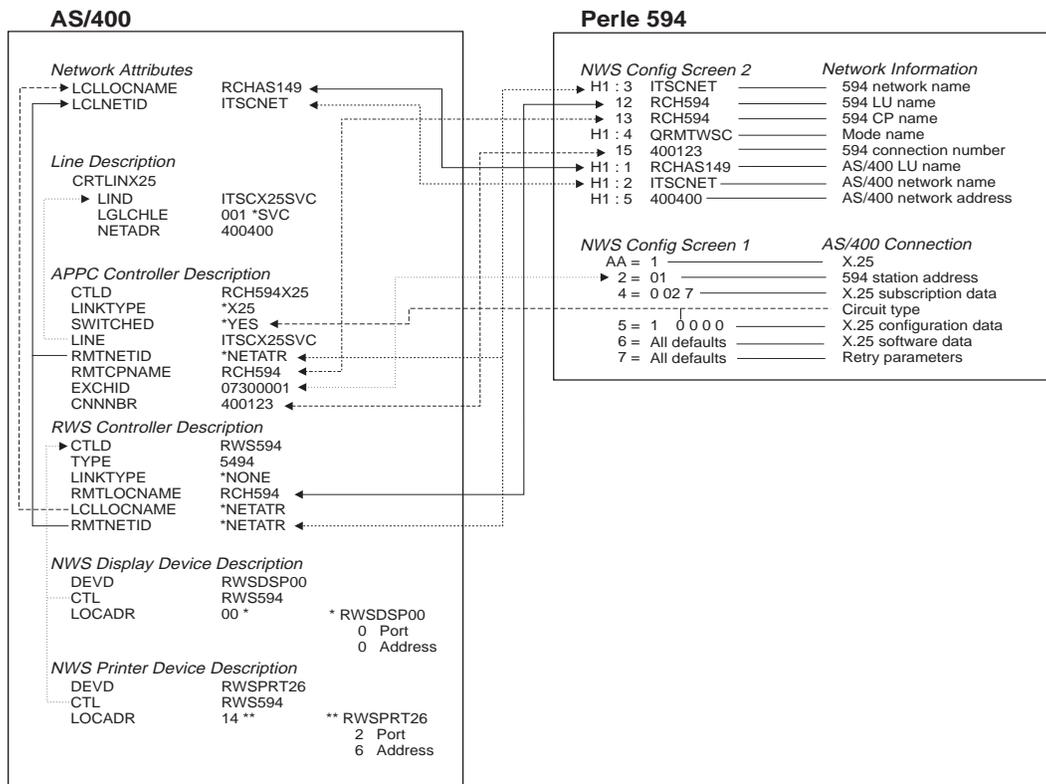

Fig. 6: X.25 Switched configuration cross-reference
- Fig. 6: X.25 Switched configuration cross-reference 4